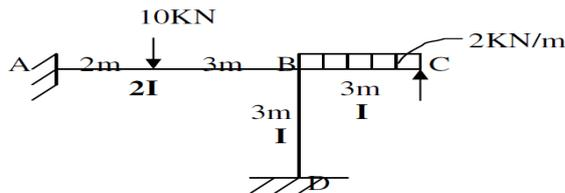

Fig.6
- b) Analyse the frame shown in fig.6 by moment distribution method and draw BMD.